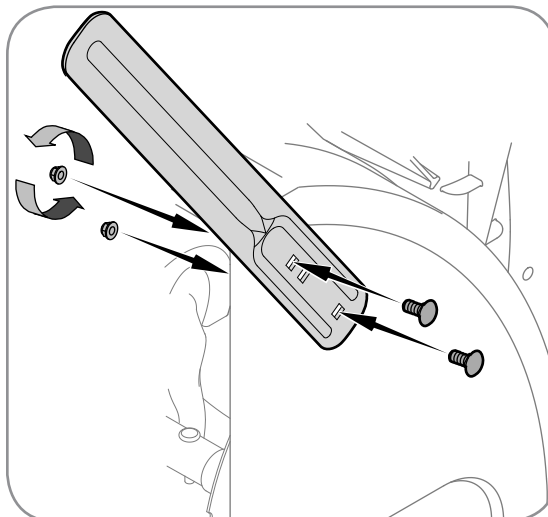

Figure 9
- Secure to the auger housing with carriage bolts and hex nuts previously removed. See Figure 9.